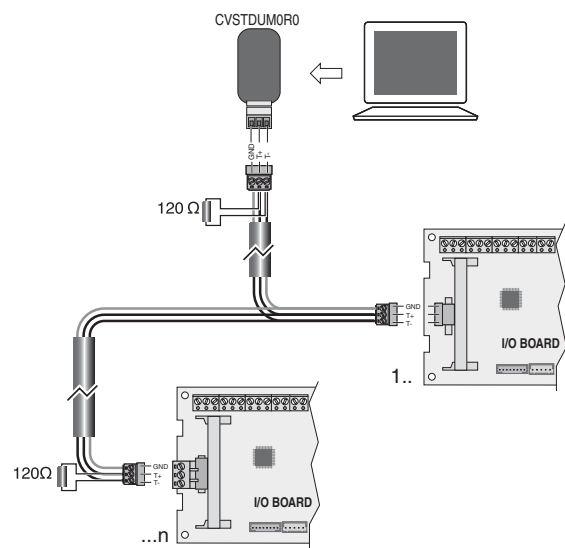

Fig. 7.a
- Connect the shield to the GND terminal and insert the two 120 ohm terminal resistors at the ends of the RS485 network (Fig. 7.a);